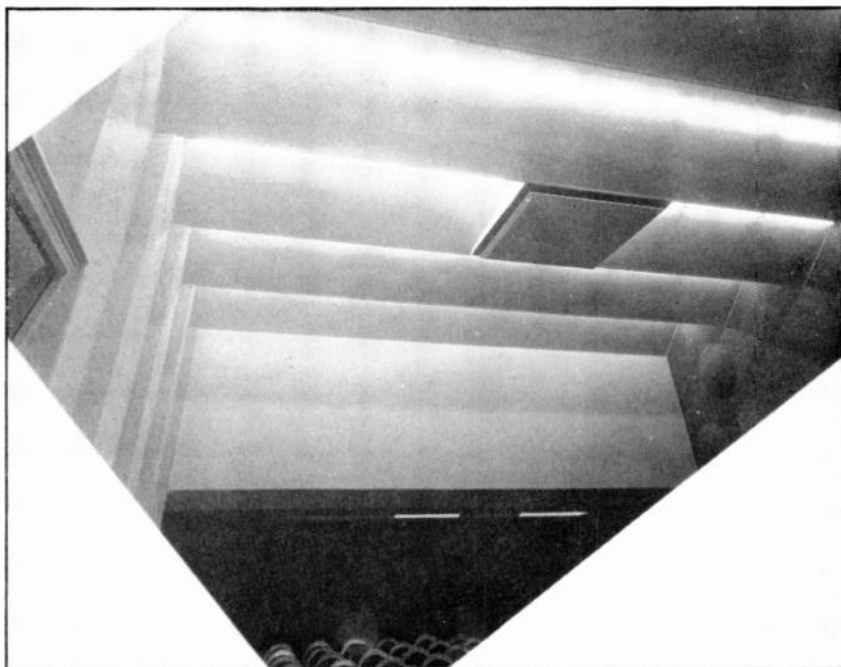

FIG. 1. SAW-TOOTH CEILING, WITH FLUORESCENT LIGHTS IN THE ANGLES
**Acoustical Design** ★ The ceiling, illustrated in Fig. 1, is made up of a series of transverse, saw-tooth surfaces. This is an effective way to diffuse impinging sounds.